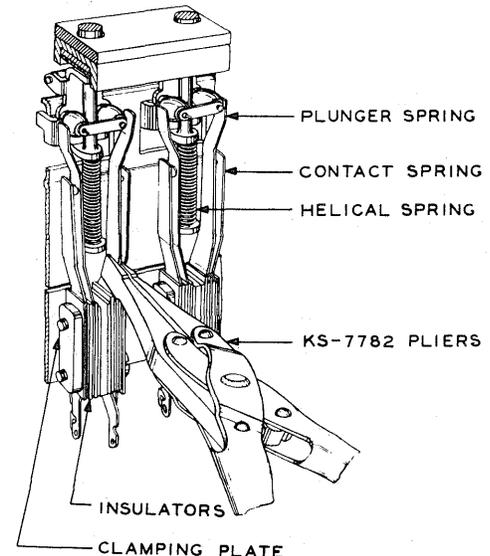

Fig. 8—Method of Adjusting Contact Springs
(2) When adjusting for these requirements, adjust the springs, unless otherwise specified, close to the point where they leave the clamping plates and insulators (as shown in Fig. 8) using the KS-7782 pliers. In adjusting the springs, exercise care to adjust them in line with their movement so as not to twist them off center.
(7) **Contact Separation:** If the separation between either set of contacts is insufficient, adjust the outer spring away from the inner contact spring using the KS-7782 pliers applied as shown in Fig. 8.
(8) **Contact Pressure:** Foreign material wedged between the contact springs may prevent the springs from making contact when the plungers are depressed. Remove the foreign material with a toothpick which has been dipped in petroleum spirits. Do not use the same toothpick for more than one operation. If the pressure requirement is still not met, adjust the springs, as required, following the procedure given in (1) and (2).
(9) **Contact Follow:** If the follow requirement cannot be met by adjusting the contact springs as outlined in (1) and (2), the upper part of the spring may be given a slight bend just below the contact disc with the 485A pliers. This bend should not be enough, however, to make a visible kink in the spring.
(10) **Contact Sequence:** To adjust for contact sequence, increase or decrease the contact separation, contact pressure, contact follow, and spring clearance as outlined in (6) through (9).